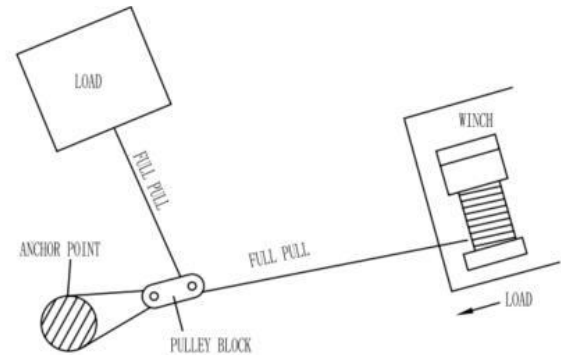

Fig. 8
3. The use of a pulley block to change the direction of the pull. Mechanical advantage can be obtained by attaching a pulley block to the nylon sling. (See fig. 8)